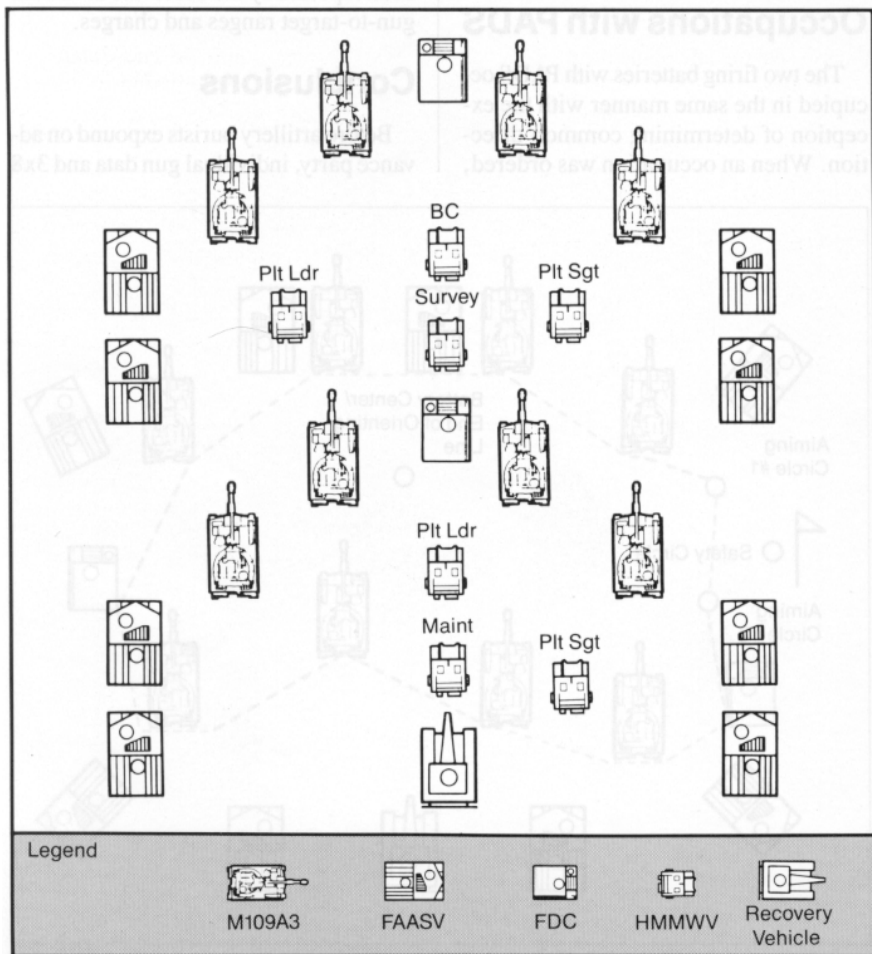

Figure 1: Movement in Wedge Formation. The platoons moved in wedges with the battery in column, all tucked behind the maneuver brigade's combat vehicles.
2. Move with platoons in wedges, battery in column (see Figure 1). Sustain a rate of speed of 10 miles per hour over long distances. Be able to sprint short distances at 20 miles per hour.